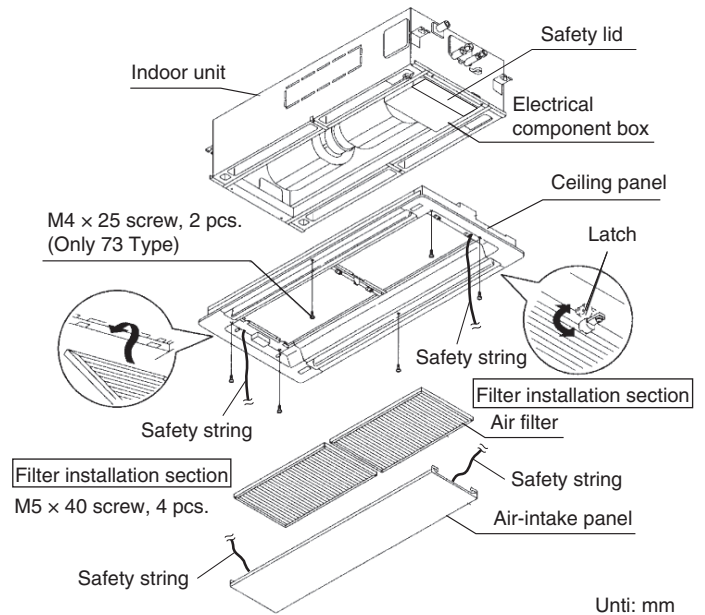

Fig. 7-20
- (2) Remove the air-intake panel and the air filter from the ceiling panel as shown in Figs. 7-20 and 7-21.
- (6) Install the air filter and air-intake grille by performing the steps in Figs. 7-20 and 7-21 in reverse.